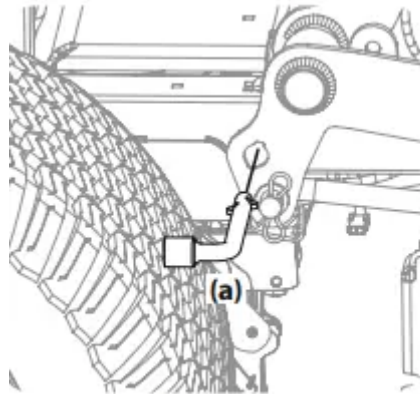

Figure 40
5. On tractors equipped with the deck lift knob, use the deck lift pedal and deck lift knob to place the deck in the lowest position and use the multitool (a) to lock the deck lift components in place as shown in Figure 40. On tractors with a deck lift handle, lower the deck into the lowest position